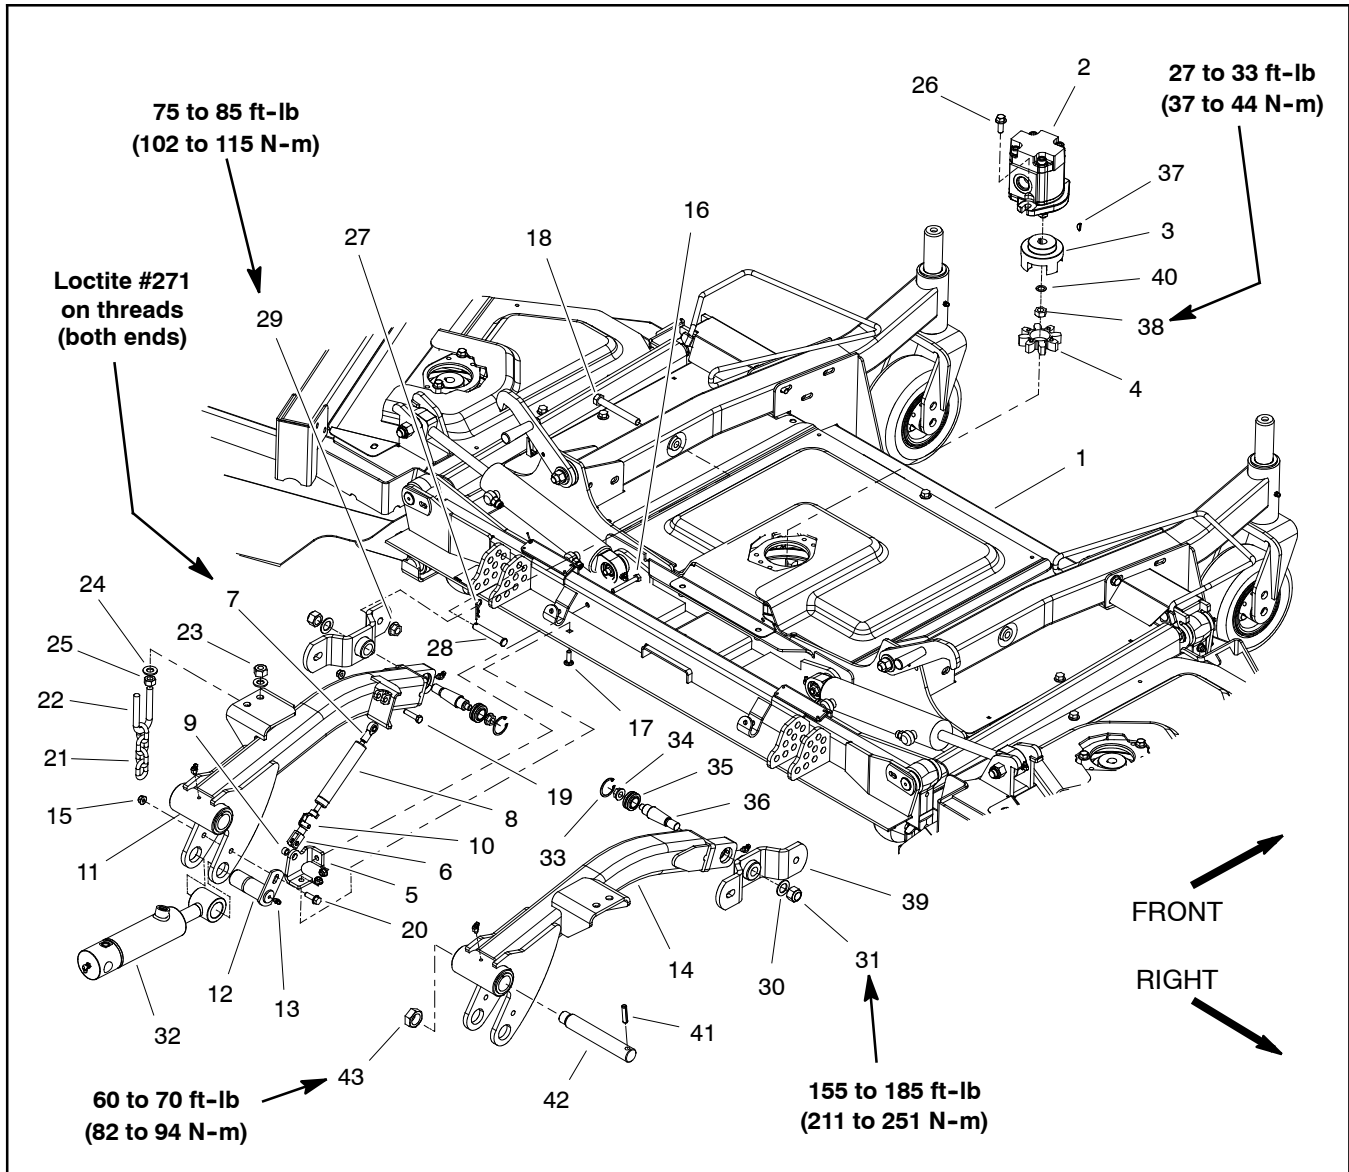

Figure 3
Removal (Fig. 3)
A. Remove height-of-cut chain (items 21 and 22 in Fig. 3).
B. Remove damper assembly (items 6, 7 and 8 in Fig. 3).
C. Remove flange nut, flat washer and support hub (item 39 in Fig. 3) from tapered stud in end of lift arm.
Installation (Fig. 3)